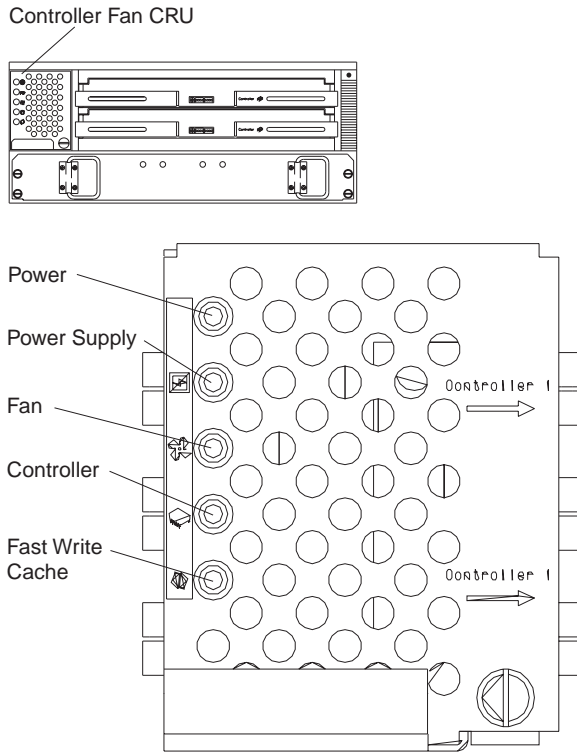

Figure 16. Controller Fan CRU and Status LEDs
The *controller fan CRU* (Figure 16) is a single, removable unit containing two cooling fans, temperature monitoring logic, and five LEDs that provide overall system status information. The dual fans provide a redundant cooling system to both controller CRUs. If one fan fails, the other will continue to operate, providing sufficient air circulation to prevent the controllers from overheating until you can replace the entire controller fan CRU. The controller fan CRU plugs directly into a slot on the front of the controller unit, to the left of the controllers. It has a handle and captive screw for easy service.
5. Check the LEDs on the controller fan CRU (Figure 16 on page 28).